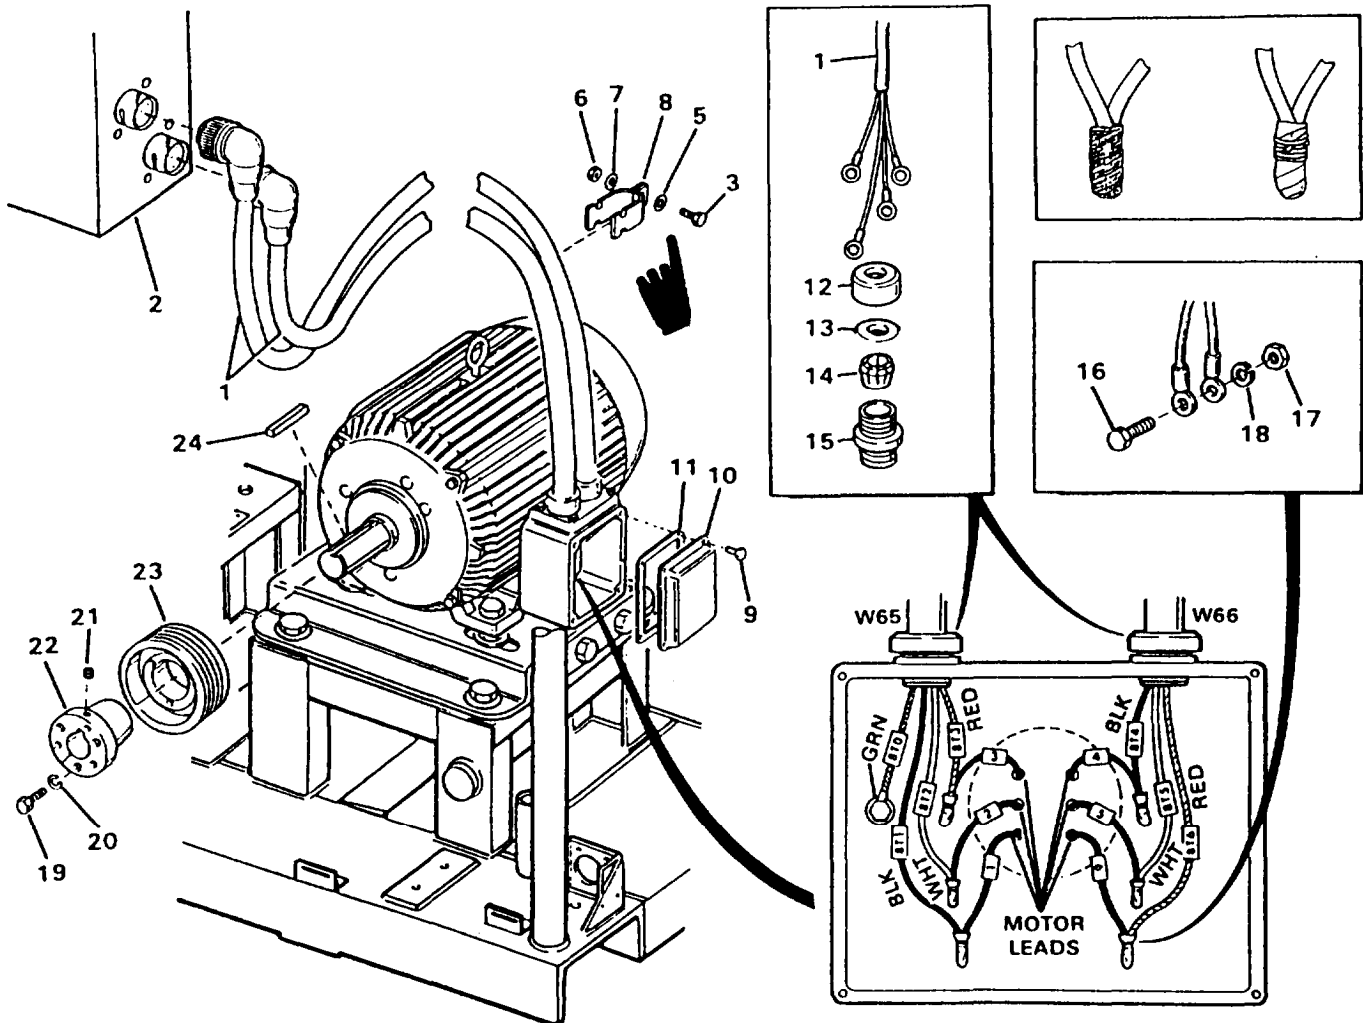

Figure 4-99. High Pressure Pump Motor Assembly
Note that the belt guard has been omitted from Figure 4-99 for clarity.
- a. Refer to Figure 4-99 and disconnect two cables (1) from junction box (2).
- b. Remove capscrews (3), (4) DELETED, washers (5), locknuts (6), washers (7) and clamps (8).
- c. Remove screws (9), cover (10) and gasket (11).
- d. Unscrew nuts (12) and slide nuts (12), washer (13) and bushing (14) back on cables (1). Remove fitting (15) from conduit box.
- e. Cut the twine and tape which cover cable/motor connections and tag and disconnect cables (1) from the motor leads by removing screw (16), nuts (17) and washers (18). Remove ground lead.
- f. Pull cables (1) out of the motor conduit box and, if necessary, slip bushing (14), washer (13) and nut (12) off the cables.
- g. Remove hub (22) and sheave (23) as follows:
- (1) Scribe the motor shaft to indicate the position of hub (22) on the shaft.
- (2) Mark, sheave (23) to show which side faces the motor.
- (3) Remove capscrews (19) and lockwashers (20).
- (4) Install capscrews (19) in the threaded holes of hub (22).